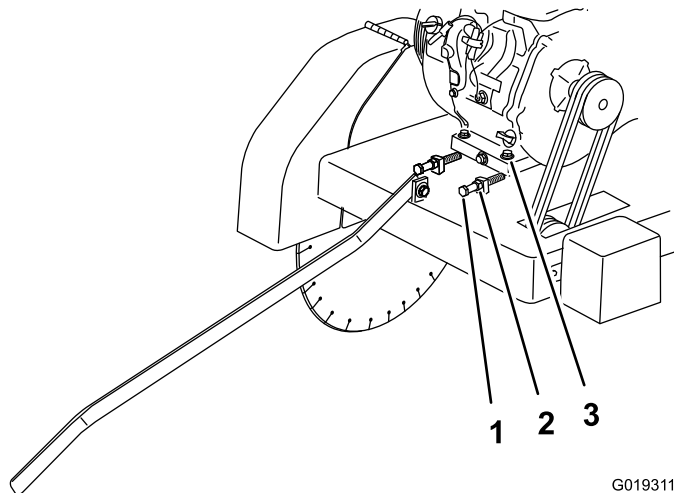
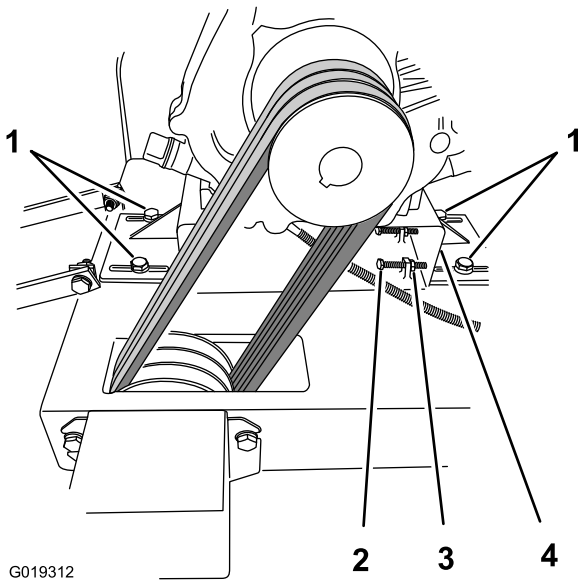

Figure 52
Figure 53
- B. Loosen the bolts, washers, and nuts that secure the engine to the base of the machine (Figure 52).
- **Model 68046**—Loosen the bolts and washers that secure the engine-deck plate to the base of the machine (Figure 53).
3. Loosen the jam nuts that secure the tension bolts (Figure 52 and Figure 53).
- A. **Model 68045**—Tighten the bolts and nuts that secure the engine to the base of the machine to 48 N-m (35 ft-lb)(Figure 52).
- B. **Model 68046**—Tighten the bolts that secure the engine deck plate to the base of the machine to 48 N-m (35 ft-lb)(Figure 53).
5. Loosen the belt tension bolt and jam nut, slide the engine forward to loosen belts; refer to Figure 52 and Figure 53.